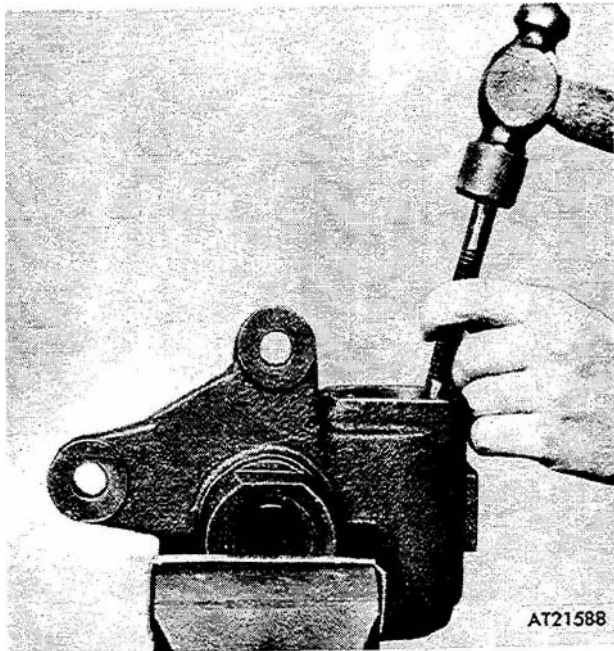

Figure 3-215. Removing plug from housing.
(5) Using a suitable punch and hammer, remove plug (21, fig 3-212) from housing (20) as shown in figure 3-215. Remove plugs (11 and 24, fig 3-212).